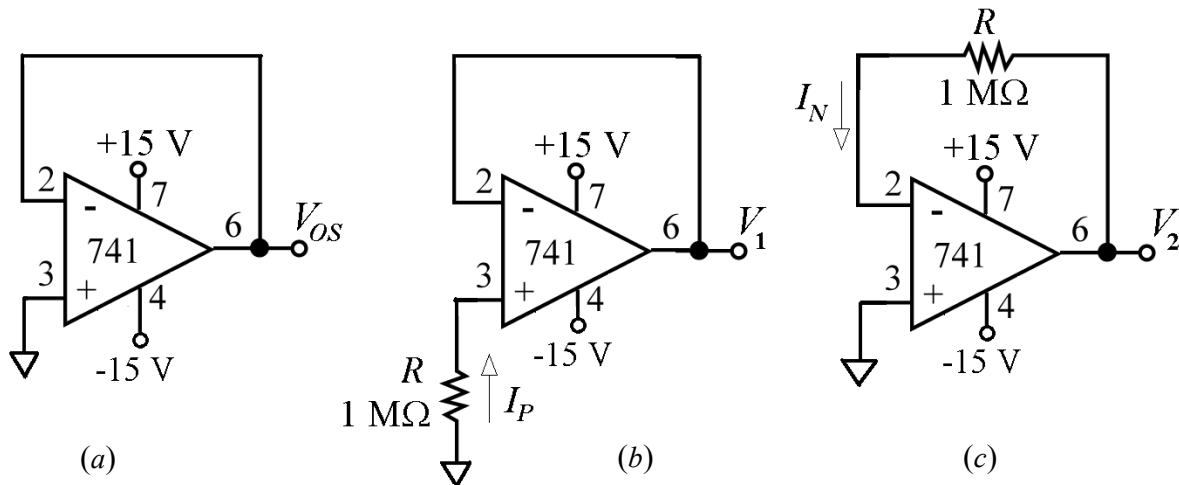

Fig. 7 – Test circuits to measure V_{OS} , I_P , I_N , and $PSRR$.
M1: With power off, assemble the circuit of Fig. 7(a), using the instructions of the Appendix as guidelines for good circuit-assembly habits. Apply power, and measure the output with your digital
MC2: Turn power off, and insert the 1-M Ω resistor shown in Fig. 7(b). This is intended to cause the current I_P drawn by the *non-inverting input* to develop the voltage $V_P = -RI_P$, so that $V_1 = V_{OS} - RI_P$, by the superposition principle. Apply power, measure V_1 , and calculate $I_P = (V_{OS} - V_1)/R$, with V_{OS} as found in Step M1. For accurate results, you may wish to measure R with the ohmmeter.
MC3: Turn power off, and connect the 1-M Ω resistor as in Fig. 7(c). By similar reasoning, the current I_N drawn by the *inverting input* will yield $V_2 = V_{OS} + RI_N$. Apply power, measure V_2 , and calculate $I_N = (V_2 - V_{OS})/R$, with V_{OS} again as found in Step M1.
MC5: Turn power off, configure the circuit again as in Fig. 7(a), and lower the supply voltages from $\pm 15\text{ V}$ to $\pm 10\text{ V}$, thus effecting a power-supply change $\Delta V_S = 5\text{ V}$. Apply power, measure the new value of V_{OS} , and find the difference ΔV_{OS} between the current reading and that of Step M1, which you may wish to repeat, just to make sure that the offset hasn't drifted meanwhile. Finally, use Eq. (2) to find $1/PSRR \equiv |\Delta V_{OS}/\Delta V_S|$, in $\mu\text{V}/\text{V}$. Compare with the value given in the data sheets, and comment.